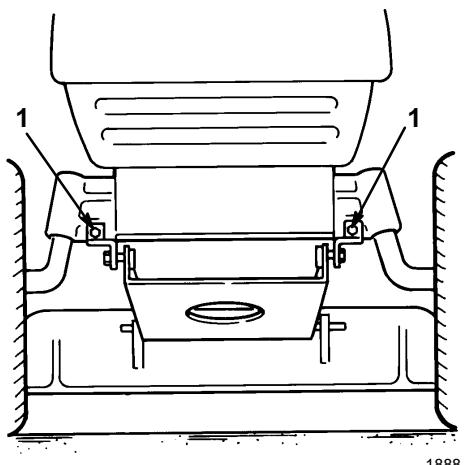

Figure 37
5. Install the mower pivot mount brackets to the front axle with bolts and lock nuts (Fig. 37).